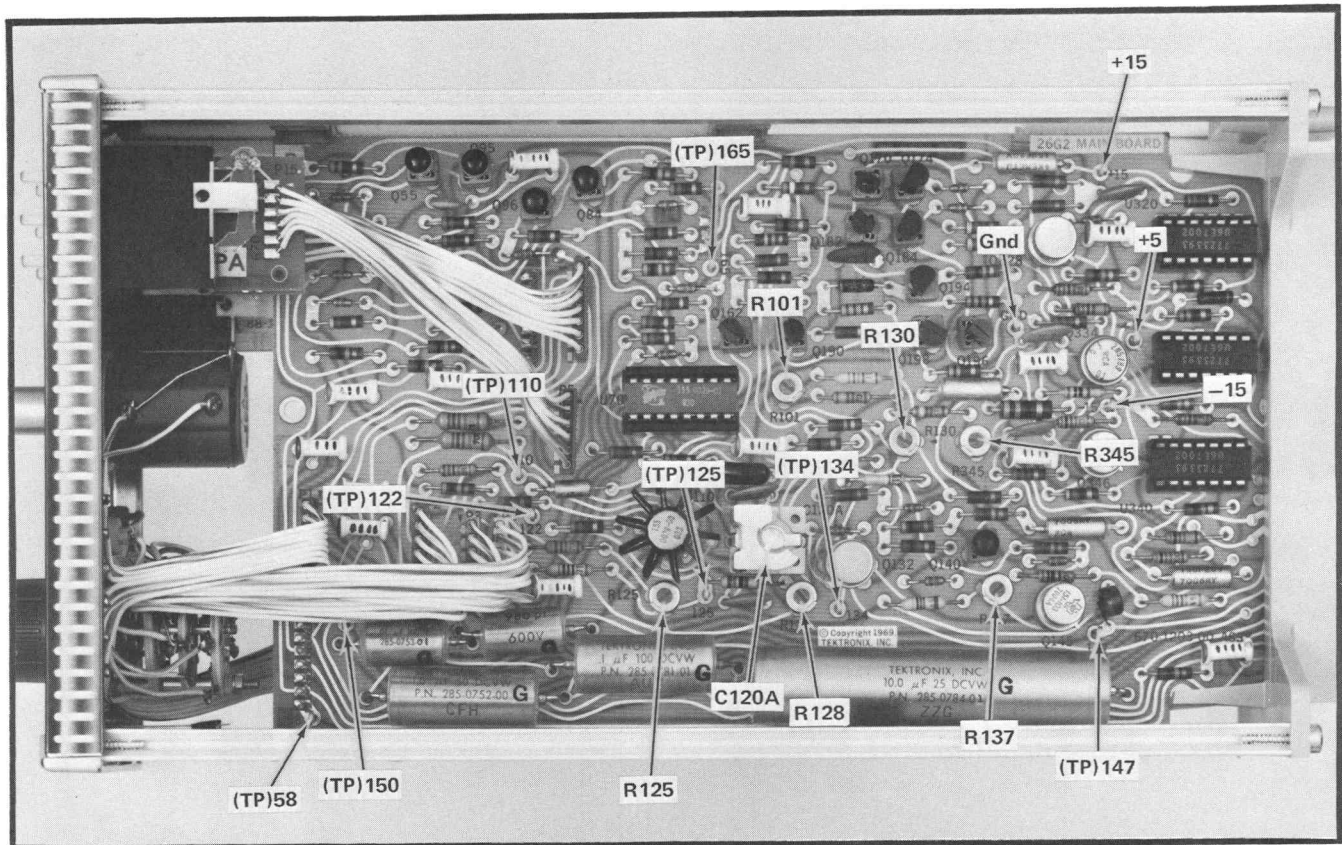

Fig. 5-4. Location of internal adjustments.
a. Connect a 1X probe from Differential Comparator +Input to —15-volt Test Point (location shown in Fig. 5-4).
- f. ADJUST—R101 (see Fig. 5-4 for location of internal adjustments) to terminate the ramp on the leading edge of the 10th time mark.
**5. Adjust Multiplier Linearity (R128) ①**
- a. Connect a 1X probe from Dual Trace Amplifier, CH 1, to TP110. See Fig. 5-4 for test point location.